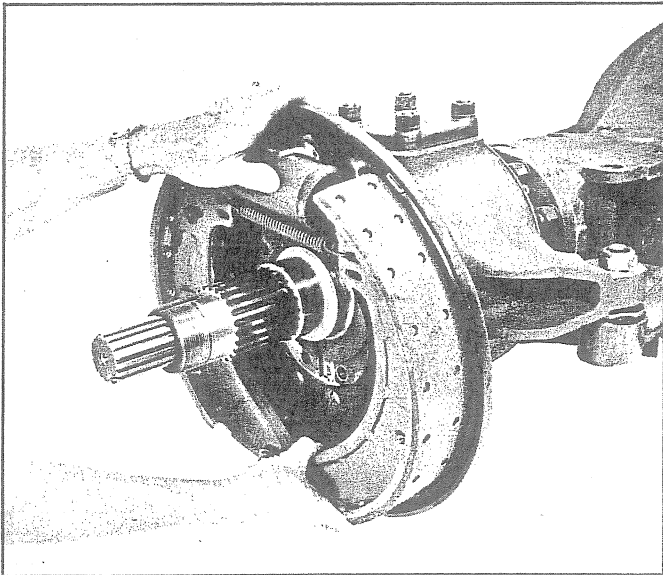

Fig. 28 - Installing Brake Backing Plate
22. Position the brake backing plate assembly to the spindle as shown in Fig. 28.